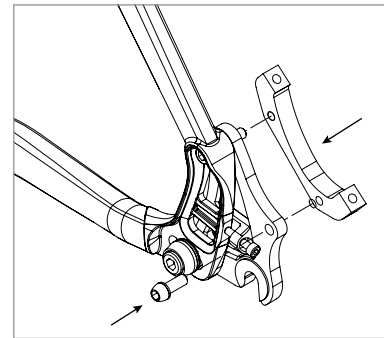

Figure 5
2. Mount your disc brake adapter using the same upper pivot bolt and one of the bolts supplied with the brake adapter. Secure the lower adapter bolt to the brake according to manufacturer's specification. Apply thread locking compound to both bolts. (FIG 5).